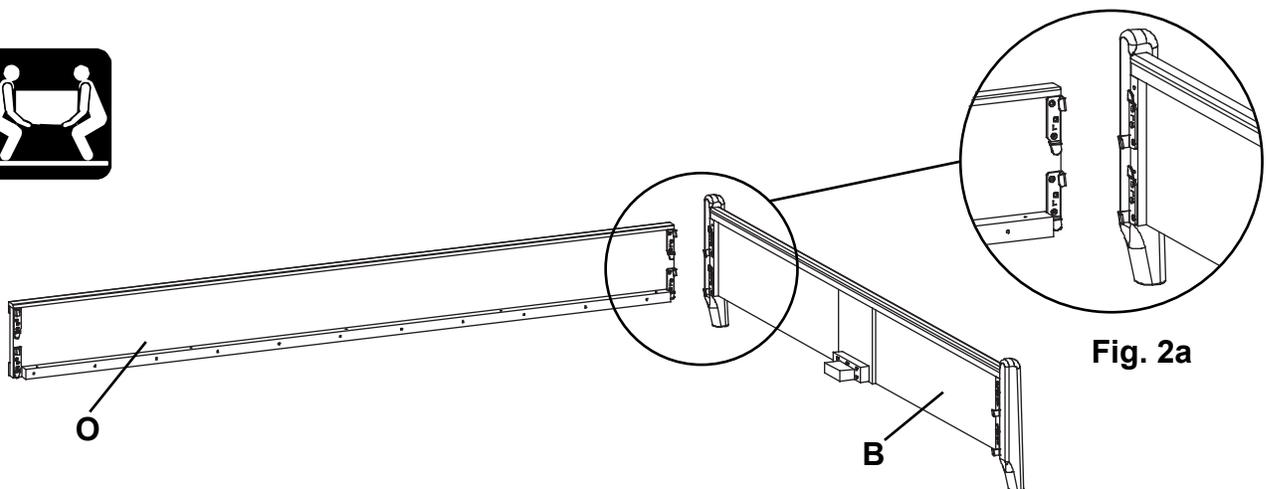

Fig. 2
2. To attach the Footboard (B) to the Side Rail (O), align the Brackets and slide the Side Rail (O) down on to the Footboard (B). See Figures 2 and 2a.